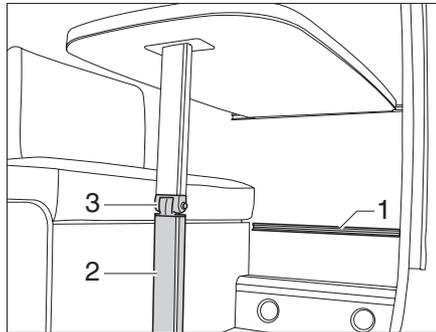

Fig. 40 Suspension table with fold-out leg
- ▶ Unlock the table leg (Fig. 40,2) at the hinge and fold it in.
- ▶ Attach suspension table to the lower attachment rail (Fig. 40,1) and rest it onto the table leg hinge (Fig. 40,3).